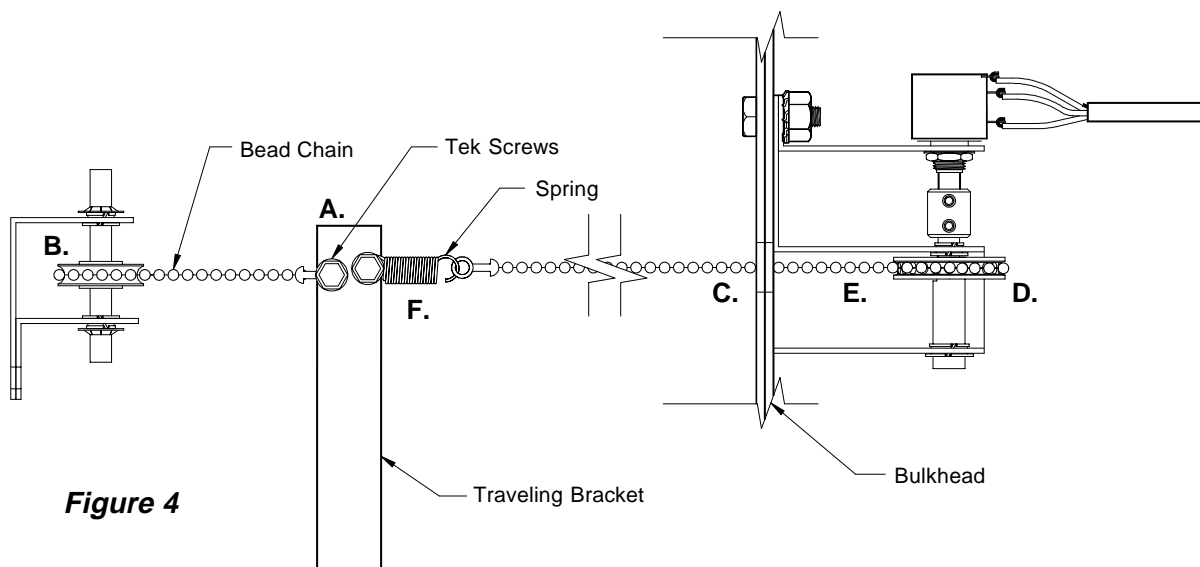

Figure 4
F) Attach the spring with a Tek screw to the available hole in the traveling bracket. **See Figure 4.**